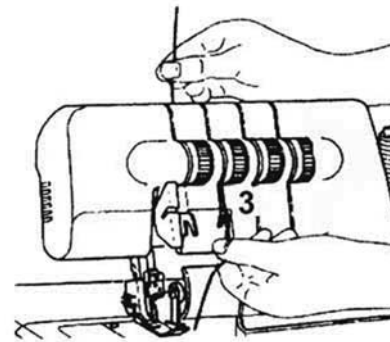

Fig. 26
3. Firmly hold the yarn with your fingers, guide it between and through the discs of the thread tension selector 15 and then pull it down (3) (Fig. 26).
① Note: